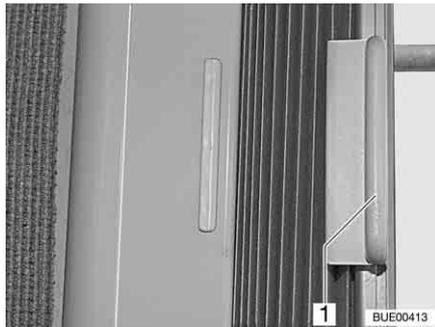

Fig. 36 Roman shade
- Grasp the handle (Fig. 36,1) of the Roman shade and slide to the left or the right.